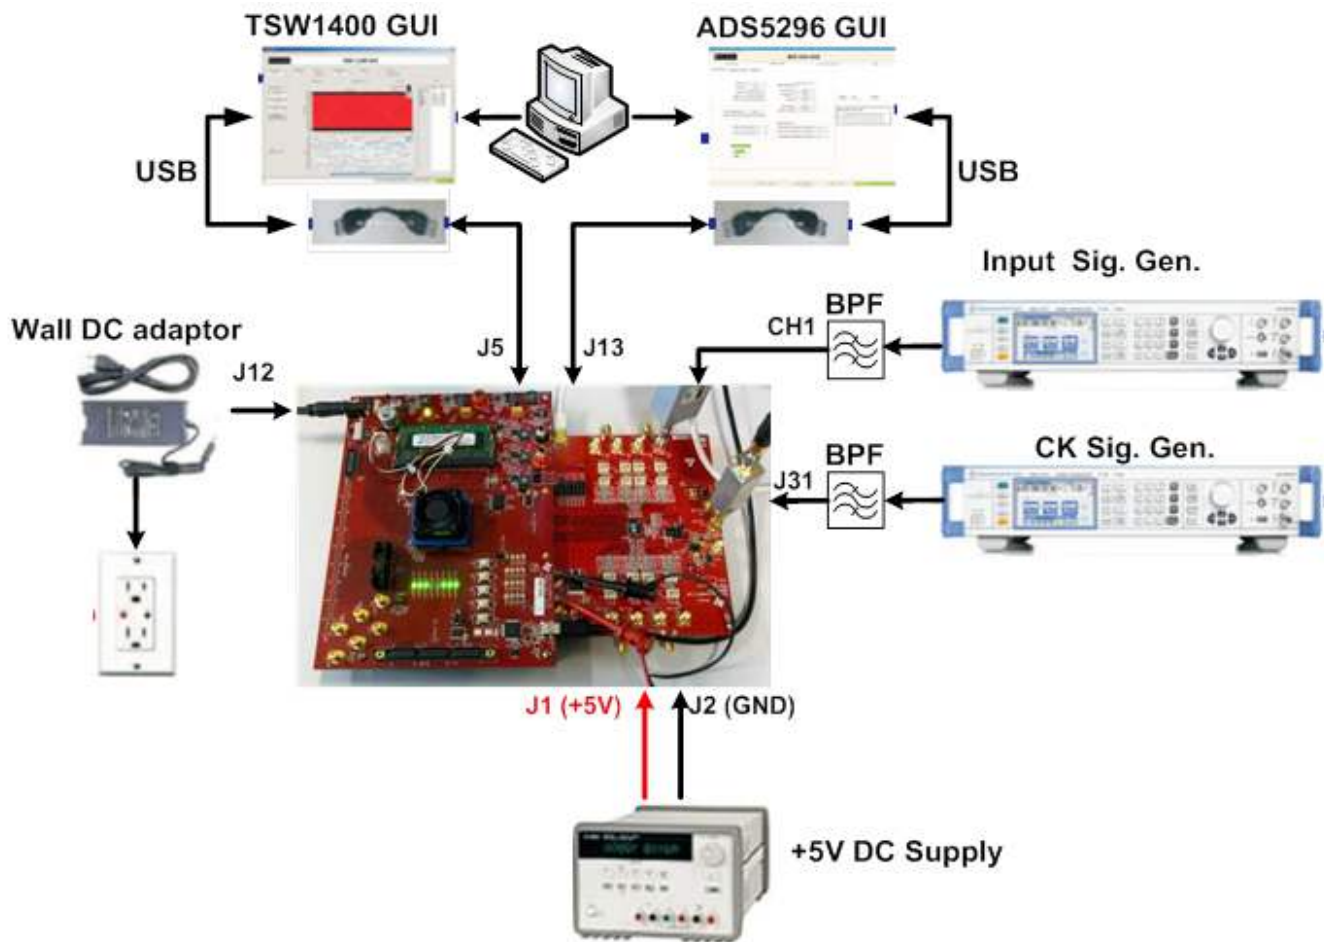

Figure 1. Evaluation Setup
Figure 1 is an overview of the evaluation setup that includes the ADS5296 EVM, TSW1400 data capturing card, external equipment, personal computer (PC), and software requirements.
**Equipment:** Signal generators (with low-phase noise) must be used as source of input signal and clock in order to get the desired performance. Additionally, band-pass filters (BPF) are required in signal and clock paths to attenuate the harmonics and noise from the generators. (**Note: Functionality of the setup shown in Figure 1, including the LVDS interface between the ADS5296 and FPGA on the capture card, can be tested using the on-chip test pattern generator and the on-board crystal oscillator for an ADC sampling clock source.**)
**USB Interface to PC:** The USB connections from the ADS5296 EVM and TSW1400 EVM to the personal computer (PC) are used for communication from the GUIs to the boards. Section 2 explains the TSW1400 and ADS5296 GUI installation procedure.